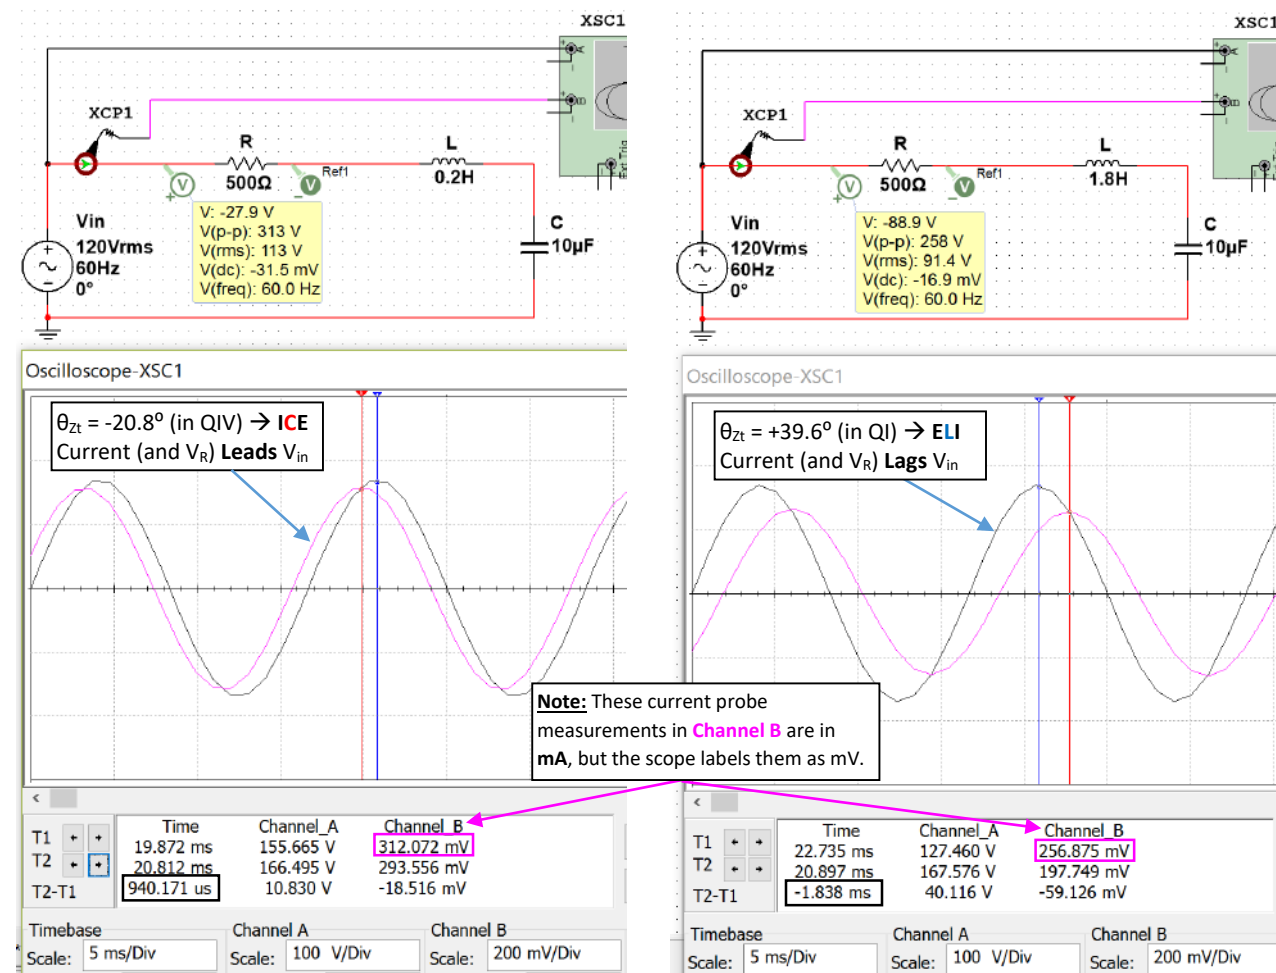

Figure 3.10: Current (Pink) and V_{in} (Black) Plots for Case 1: $L = 0.2\text{ H}$ (Left) and Case 2: $L = 1.8\text{ H}$ (Right)
* Multisim Current Verification for Case 1 and Case 2 current calculations (See Figure 3.10 below).